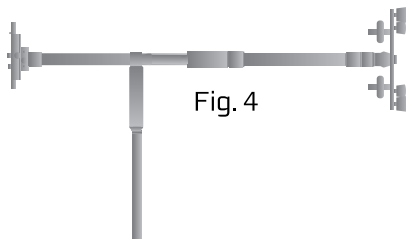

Fig. 4
- Balance the stabilizer on the horizontal plane by adjusting the height of the gimbal and the length of the center-column extensions. (Fig. 4)